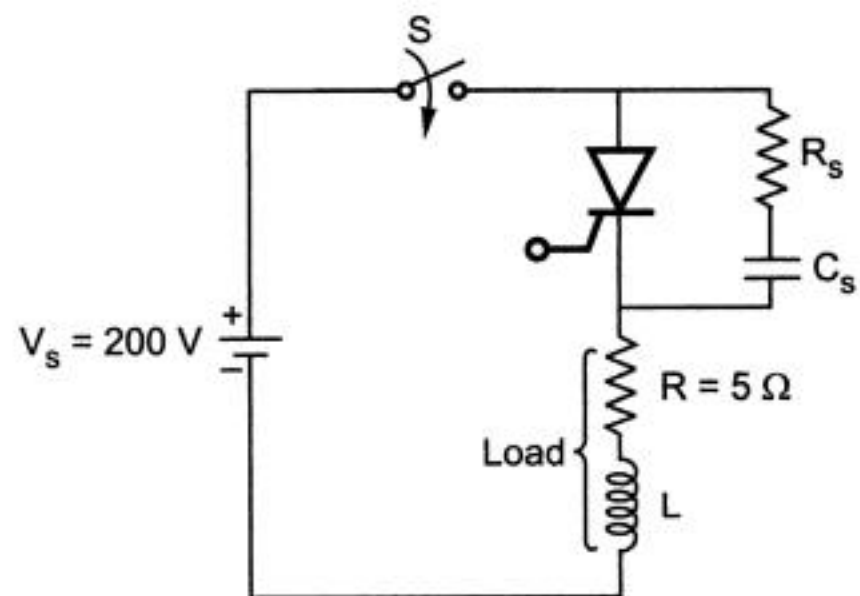
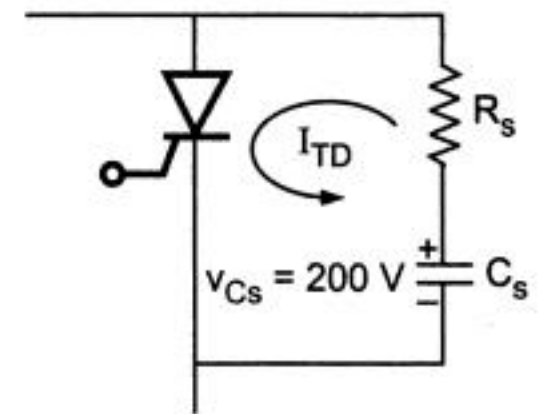

Fig. 2.10.3 Circuit of example 2.10.2
Fig. 2.10.4 Path of I_{TD}
►►► **Example 2.10.2 :** For the circuit shown in Fig. 2.10.3, the thyristor is operated at 2 kHz. The required $\frac{dv}{dt}$ is 100 V/ μs . The discharge current is to be limited to 100 A. Determine
R_s limits the discharge current through T_1 . From Fig. 2.10.3, $T_1 - R_s - C_s$ forms a loop when T_1 turns-on. Prior to turn-on of T_1 , C_s charges to 200 V. Fig. 2.10.4 shows this situation.